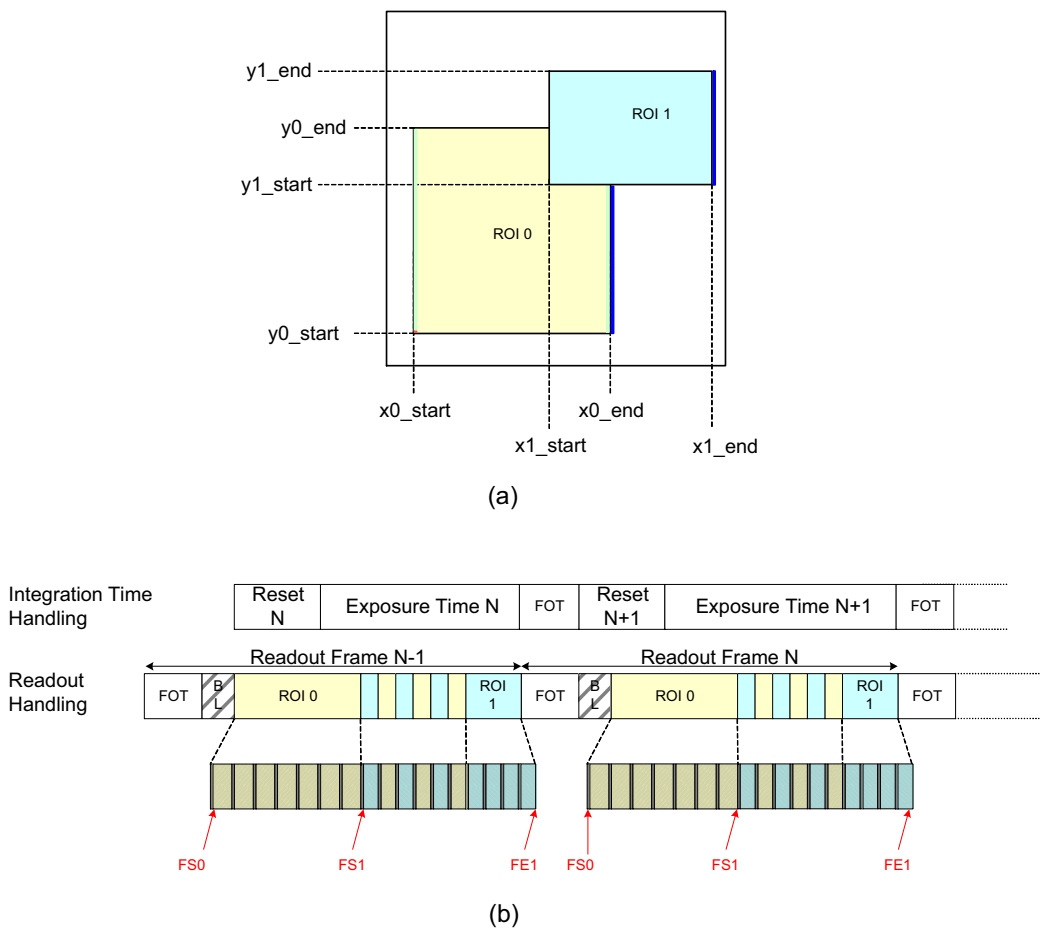

Figure 31. P1-SN/SE/FN, P3-SN/SE/FN: Frame Sync Codes
The frame format in 10-bit mode is explained by example of the readout of two (overlapping) windows as shown in Figure 31(a).
Figure 31 indicates that, after the FOT is completed, the sensor reads out a number of black lines for black calibration purposes. After these black lines, the windows are processed. First a number of lines which only includes information of ‘ROI 0’ are sent out, starting at position y0\_start. When the line at position y1\_start is reached, a number of lines containing data of ‘ROI 0’ and ‘ROI 1’ are sent out, until the line position of y0\_end is reached. From there on, only data of ‘ROI 1’ appears on the data output channels until line position y1\_end is reached.
**NOTE:** In Figure 31, only Frame Start and Frame End Sync words are indicated in (b). CRC codes are also omitted from the figure.